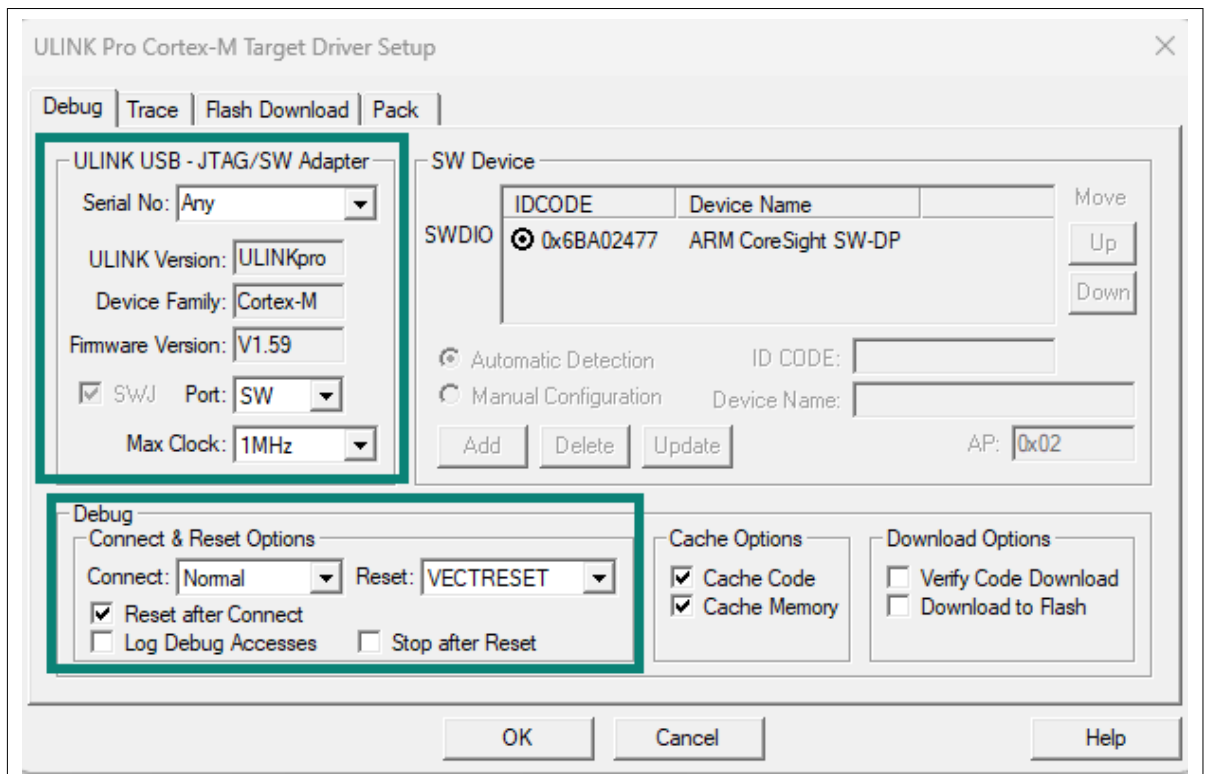

Figure 25 Configurations in Debug > Debug tab
4. In the new window, configure the settings of the **Debug** tab to match Figure 25